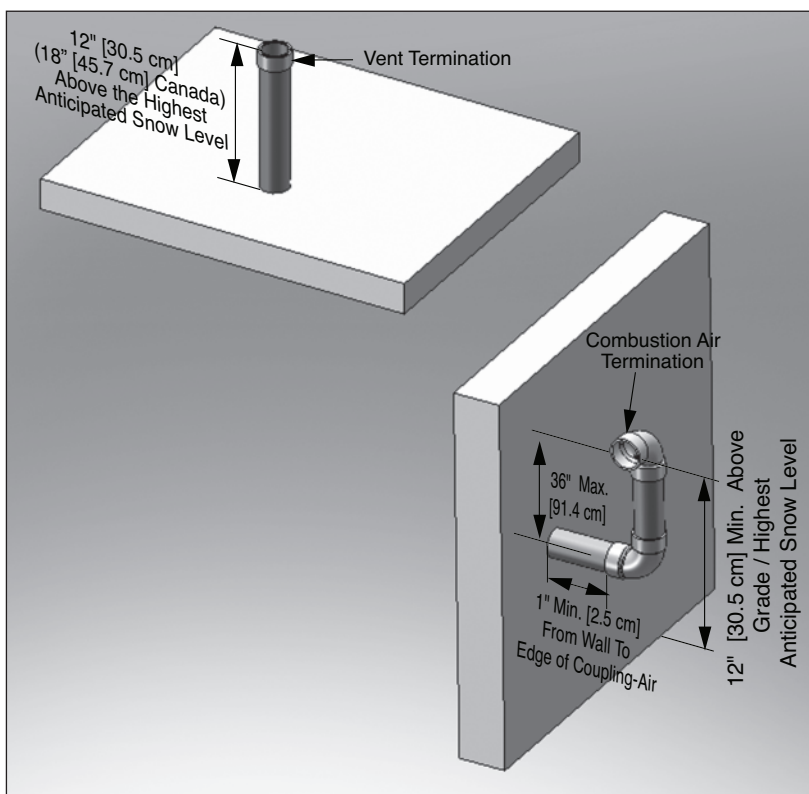

Fig. 21: Direct Vent - Vertical Vent and Side Wall Combustion Air
2. The combustion air piping must terminate with a 90° elbow. Fig. 21 shows a snorkel termination option. The combustion air pipe can also terminate using a 90° elbow directed down or to the left or right as shown in Fig. 8 page 17 or Fig. 13 page 18. The termination must be installed 12" [30.5 cm] minimum above grade / highest anticipated snow level and as shown in Fig. 8 page 17 or Fig. 13 page 18 or Fig. 21.
6. The edge of the combustion air termination coupling must extend to 1" [2.5 cm] beyond the exterior wall, as shown in Fig. 21 page 23.
Do not extend the vent pipe above the roof beyond the dimension shown in Fig. 21 on page 23. Extended exposure of the vent pipe could cause condensate to freeze and block the vent pipe.